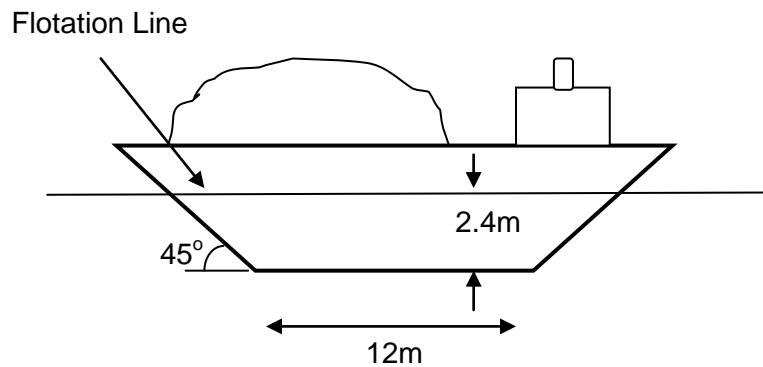

Figure 3 / Rajah 3
- [c] What is the weight of barge and load in Figure 3? The barge is 6 m in width.